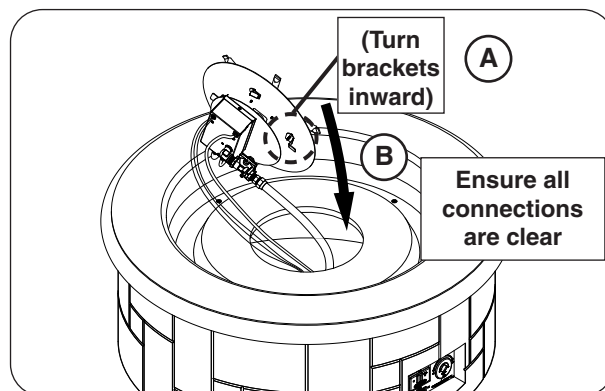

Fig. 37-2 Insert burner assembly
1. Ensure that the four burner brackets are turned inward, then insert the burner assembly (see Fig. 37-2, A-B).